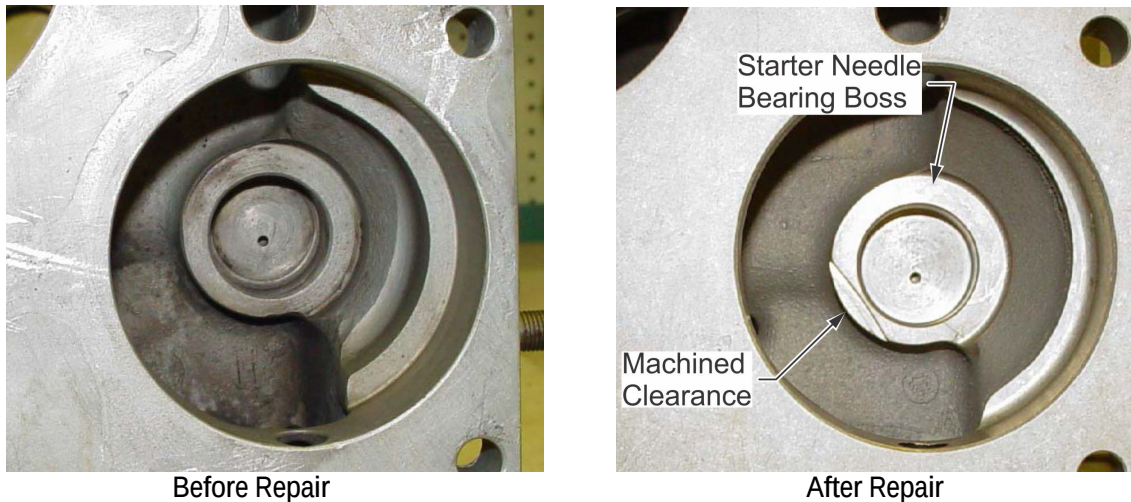

Figure 3. 1-3-5 Permold Crankcase Half, Boss Clearance Cut Repair
1. Inspect the needle bearing boss in the center of the starter adapter mounting pad. If a clearance cut (Figure 3) is present or if a clearance of 0.030" (or greater with the camshaft and gear installed) is provided under all conditions, the crankcase meets the clearance requirement.